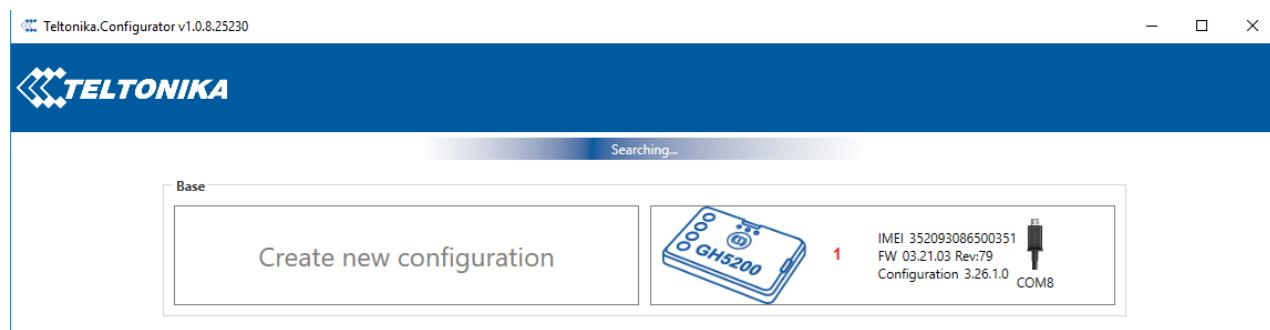

Figure 24 GH5200 configurator devices connection window
- After successful connection to the device wait a few moments while the device loads the current configuration, then navigate to Bluetooth section as shown on **Figure 24**.
- When device configuration is loaded press **Bluetooth** settings (**Figure 24** position 1).
- Turn on BT Radio by pressing Enable (visible) (**Figure 24** position 2). Local name (**Figure 24** position 3) will be "GH5200_last 7 imei digits" by default, which can be changed.
- Set **Security Mode** (**Figure 24** position 4) to *PIN only* or *None*. *PIN + MAC list* or *MAC list only* security modes could also be selected, but in that case external device MAC address is required to be entered to *Authorized Devices MAC List* (**Figure 24** 7 position).
- Set connection mode to *Hands Free* (**Figure 24** position 5).
- Set **External Name** (**Figure 24** position 6) as your hands-free device name for proper identification. In the given example hands-free headset name is "DMH10" but at least 2 characters are required to recognize it and connect to it. For better and quicker adapter identification on the network you could enter a full device name. You could check your hands-free adapter Bluetooth name by scanning nearby Bluetooth devices using a mobile phone or a computer with Bluetooth adapter.
Bluetooth starts automatically when GH5200 device is on. Take your mobile phone, go to **Settings->Bluetooth** and turn it on. Scan for nearby devices, find the device in the list, distinguish the device by last IMEI digits on device module. Press pair, wait until device asks to enter pairing password, type: "5555" (as in the example on the **Figure 24**). Paired device will show up in the paired device list. Download a terminal for Bluetooth e.g. *BlueTerm* from *Play Store/App store*. Run app, click **Find->Connect** to your paired device. Now we need to send a command to GH5200 from Bluetooth terminal, type: ".log:1". Device will respond with "Debug enabled" and GH5200 log will show up. Do not forget to save the log file to mobile phone.